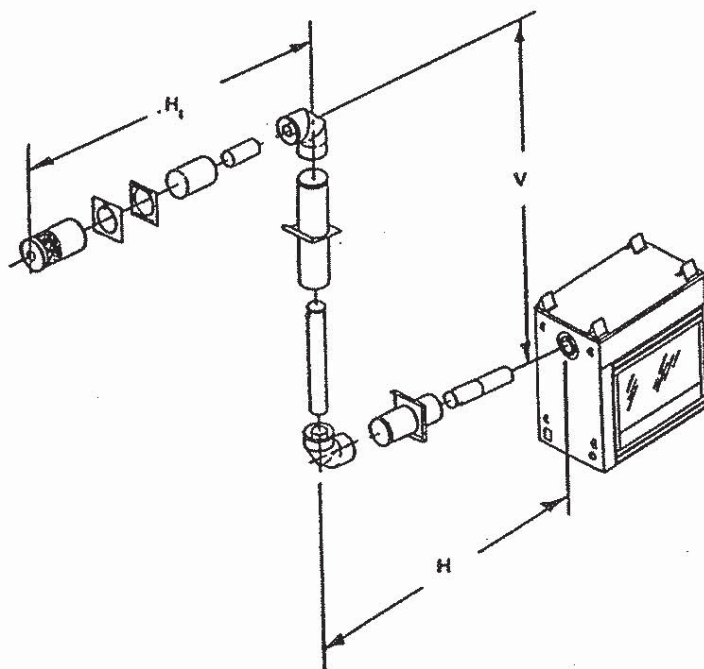

FIGURE 7
Figure 7 and Table 4 show examples of possible installations using two (2) 90-degree elbows. Dimension V is listed as **MINIMUM** vertical dimensions, dimension H is listed as **MAXIMUM** beginning horizontal dimensions, and dimension H+H1 is listed as corresponding **TOTAL MAXIMUM** horizontal dimensions. Vertical dimensions are based on centerline to centerline of pipe. Horizontal dimensions H are based on back of unit to centerline of pipe. Horizontal dimensions H1 are based on centerline of pipe to end of termination.